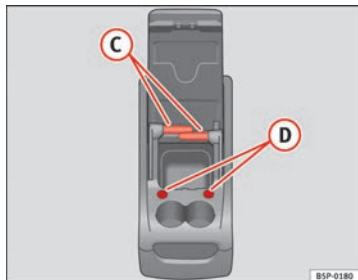

Fig. 116 Mobile storage compartment. Functions
To use the table (C) ⇒ fig. 116, it must be removed from its compartment in the side of the mobile storage compartment and fitted into slot (D) ⇒ fig. 116 on the front section of the mobile storage compartment.